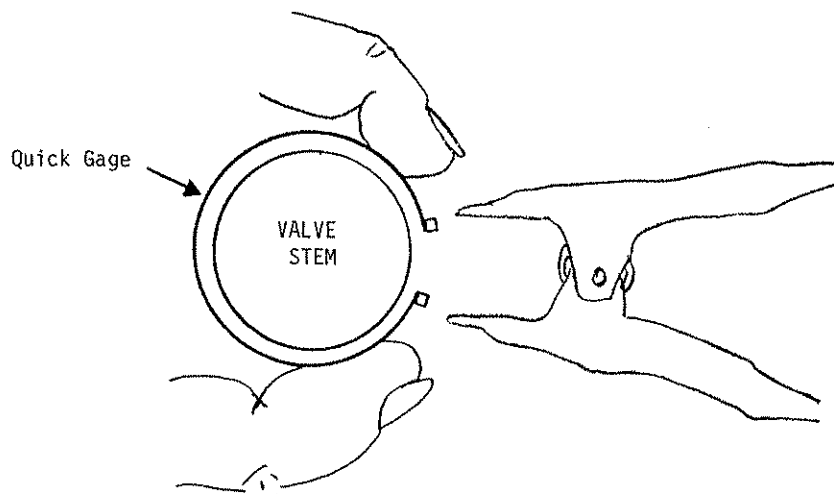

FIGURE 1
- 6.4.4** Carefully apply QSS to stem; open sensor only enough to clear stem diameter. While holding the QSS in its intended location with thumb and forefinger, apply the spring clamp to the QSS clip blocks with the other hand (Section 7.0, Figure 1).
6.5.2	Carefully apply QSS to stem; open sensor only enough to clear stem diameter. While holding the QSS in its intended location with thumb and forefinger, apply the spring clamp to the QSS clip blocks with the other hand (Section 7.0, Figure 1).
6.6.4	Carefully apply QSS to stem; open sensor only enough to clear stem diameter. While holding the QSS in its intended location with thumb and forefinger, apply the spring clamp to the QSS clip blocks with the other hand (see Section 7, Figure 1).
6.7.2	Carefully apply the QSS to the stem; open the sensor only enough to clear the stem diameter. While holding the QSS in its intended location with thumb and forefinger, apply the spring clamp to the QSS clip blocks with the other hand (see Section 7, Figure 1).
7.0	FIGURE 1 - QSS INSTALLATION TECHNIQUE